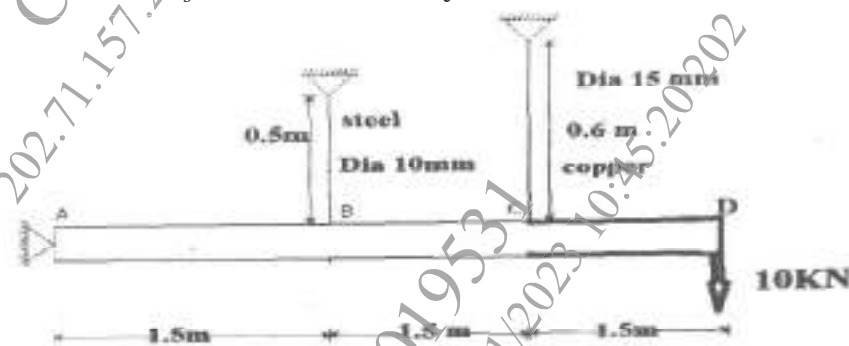

Fig 2.1
- b)** A rigid rod ABCD is supported by a hinge at A and two wires at B and C as shown in figure 2.1. Determine the stresses and elongation of the two wires. Take  $E_s = 200\text{ GPa}$  and  $E_c = 100\text{GPa}$ . [8]